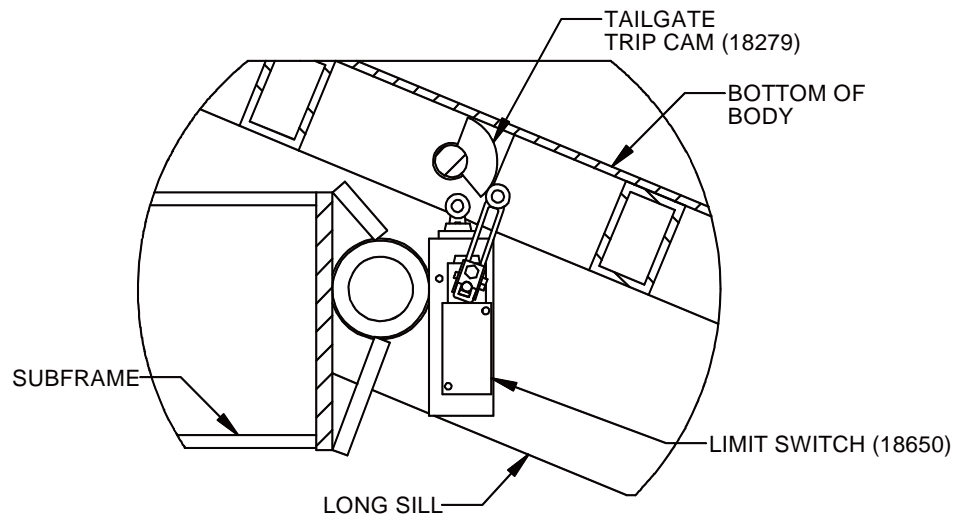

Figure 4 – Setting Limit Switch
5. Fully release the tailgate. Raise the bed to 22 degrees, using a protractor to indicate the angle between the bed and horizontal. Set the limit switch (18650) with the adjustable arm such that the roller at the end of the arm is in contact with the tailgate trip cam (18279) and at an angle that triggers the limit switch (18650). Refer to Figure 4.